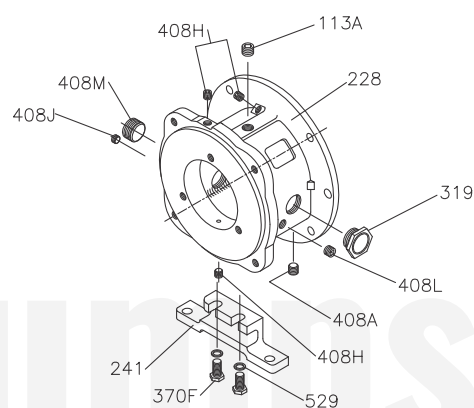

Figure 34
1.- Install in the bearing box all screw plugs (the oil drain plug, the four connection plugs oil mist, the two inlet plugs, cooling system outlet plug), in addition to the oil inspection glass and the two guide pins. (See Figure 34)